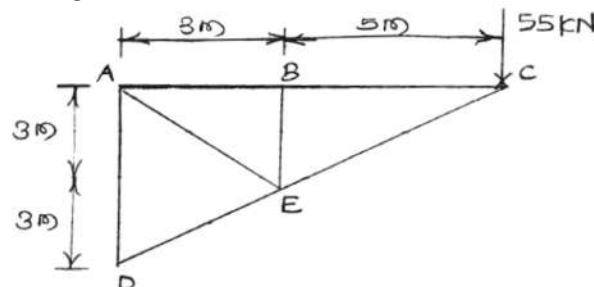

Fig. No. 9
- 14 Calculate magnitude and state nature of forces in members AB and AE and DE only by using method of section for a truss as shown in Figure No. 9.